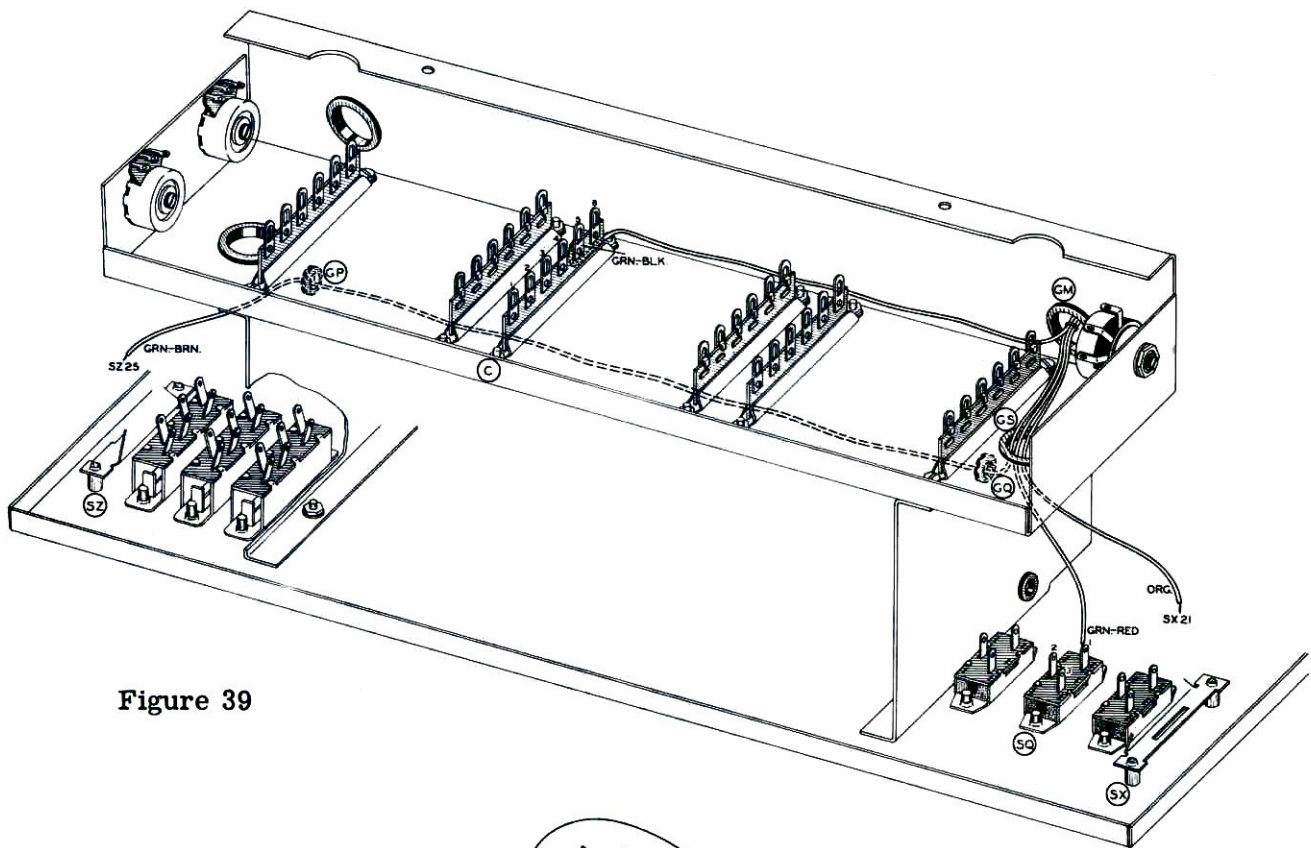

Figure 39
() On the subchassis, pass all leads, except green-black, through GS. Connect the green-black lead to C5 (NS). See Figure 39.